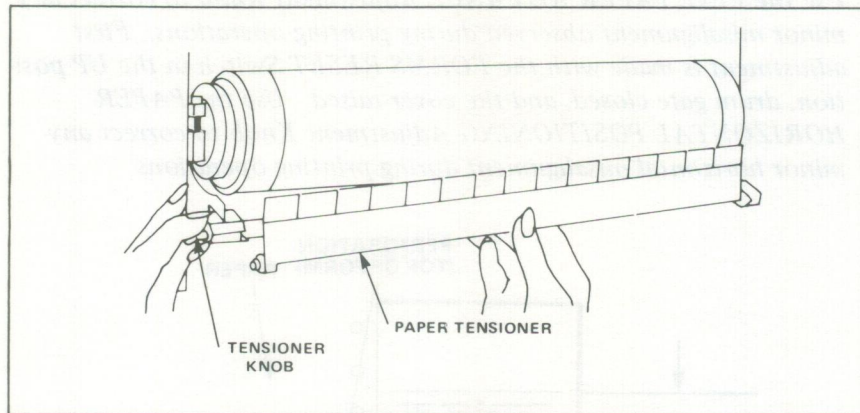

Figure 8-14. Paper Tensioning System
2. Holding the paper tension with one hand (Figure 8-14), pull the paper tensioner plunger knob, and remove the paper tensioner from the drum gate.